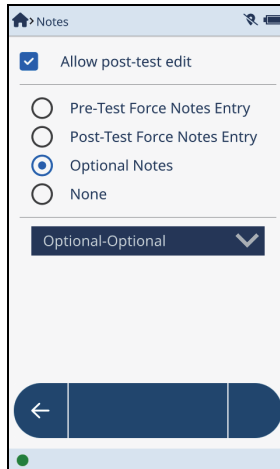

Figure 2-25 Initial Notes screen
- ◆ Tap the **Notes** button () [either in the Menu Tray or on the **Live View** screen, if available] (See Figure 2-25 on page 45).